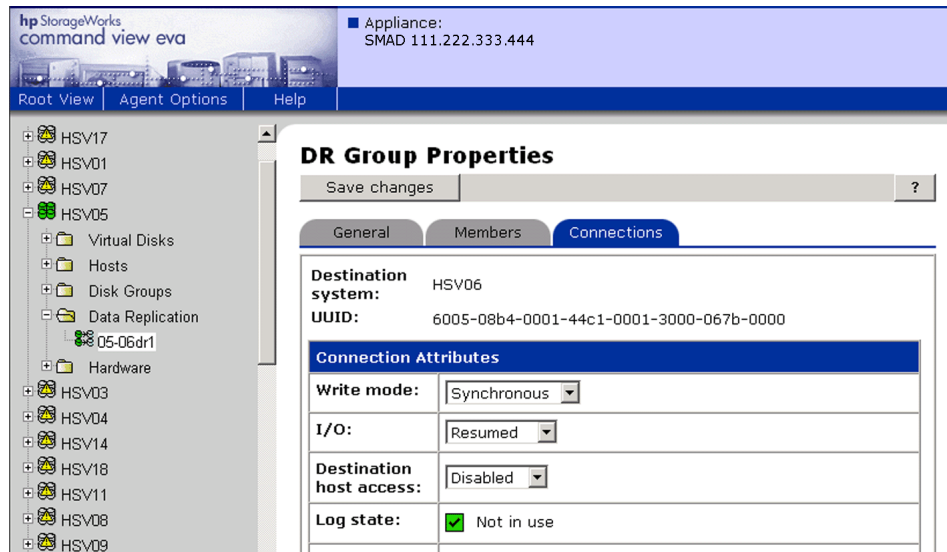

Figure 61: Setting a DR group for synchronous replication
- b. Select the desired DR group. A DR Group Properties pane is displayed (Figure 61).